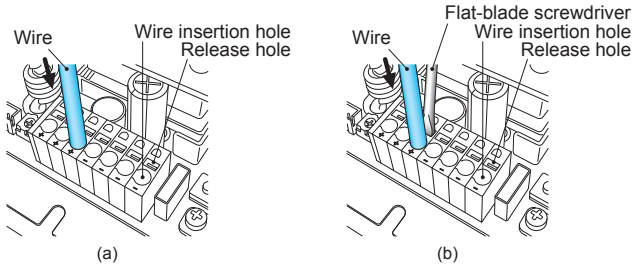
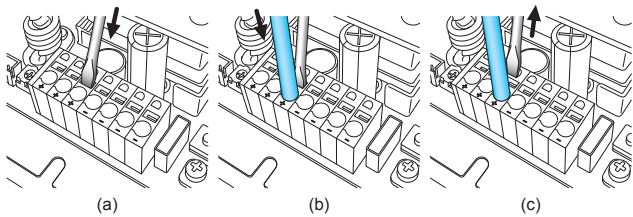
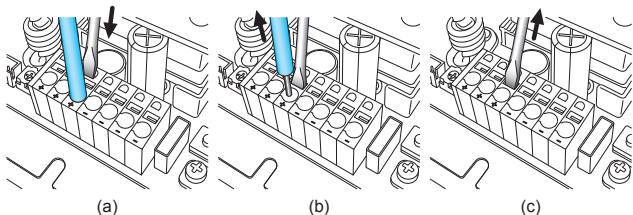

Fig.7.7 Connecting method of Ferrule terminal and Solid wire
Fig.7.8 Connecting method of Stranded wire
Fig.7.9 Releasing method of Ferrule terminal, Solid wire and Stranded wire
· Fig.7.7, fig.7.8 and fig.7.9 is the how to connect/release the wire.
(Refer to the fig.7.7 (a).)
(Refer to the fig.7.7 (b).)
(Refer to the fig.7.8 (a).)
(Refer to the fig.7.8 (b).)
(Refer to the fig.7.8 (c).)
(Refer to the fig.7.9 (a).)
- Step2:Remove the wire with the flat-blade screwdriver inserted in the release hole. (Refer to the fig.7.9 (b).)
(Refer to the fig.7.9 (c).)